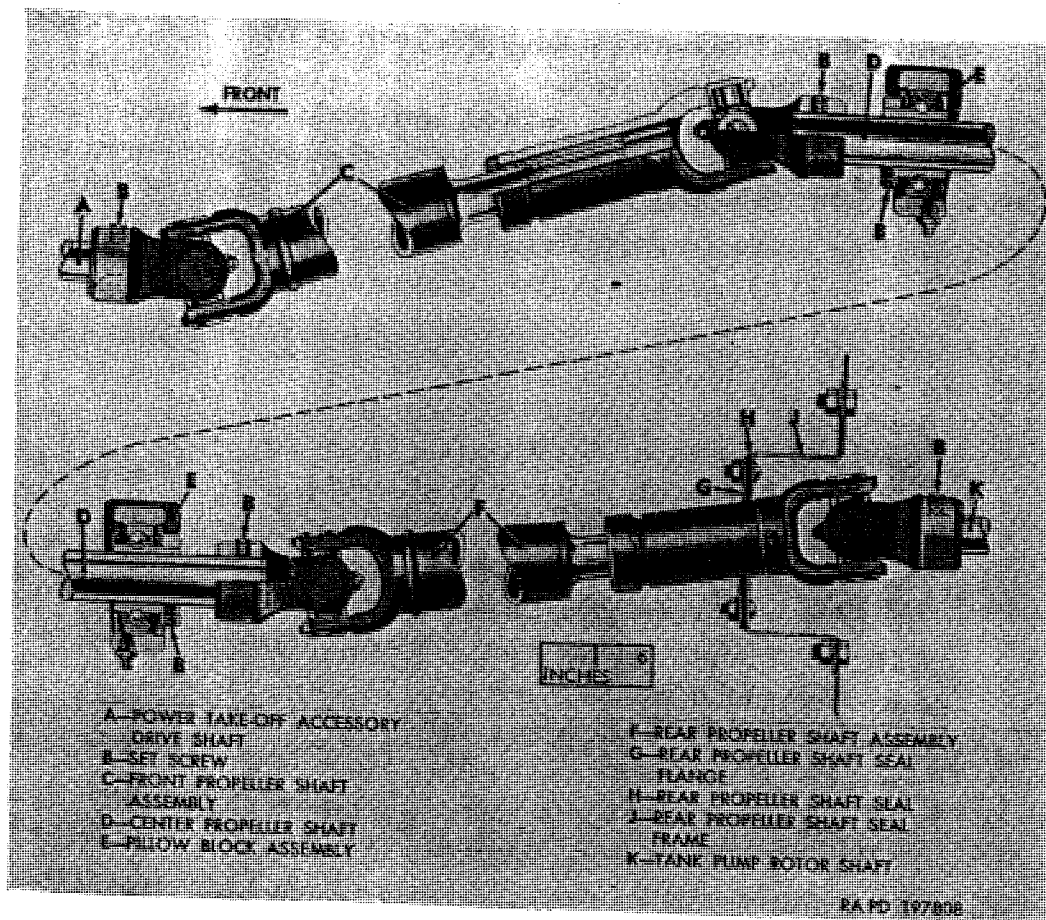

Figure 374. Water tank pump propeller shafts.
b. Front Propeller Shaft Removal (fig. 374).
- (1) Loosen hex-socket setscrew (B) securing universal joint yoke on power-take-off accessory drive shaft (A). Loosen hex-socket setscrew (B) securing universal joint yoke on forward end of center propeller shaft (D).
- (2) Push yoke onto power-take-off accessory drive shaft (A) as far as possible to permit removing yoke from center propeller shaft (D) at other end. Move universal joint yoke forward off end of center propeller shaft, telescoping shaft at slip joint.
c. Front Propeller Shaft Installation (fig. 374).
- (1) Make sure woodruff key is in place in accessory drive shaft end in front end of center propeller shaft.
- (2) Position propeller shaft assembly under vehicle with slip joint end toward rear. Place front universal joint yoke on accessory drive shaft and push onto shaft as far as possible. Telescope shaft at slip joint and place universal joint yoke on forward end of center propeller shaft. Make sure woodruff keys have not been dislodged at either end.
- (3) At power-take-off, position yoke on shaft so that setscrew indexes with milled flat on shaft; then tighten setscrew. Position rear universal joint yoke on front end of center propeller shaft so that yoke completely covers the woodruff key; then tighten yoke setscrew.
d. Rear Propeller Shaft Removal (fig. 374).
- (1) At rear end of shaft, remove four screws and nuts attaching propeller shaft seal flange (G) and seal (H) to seal frame (J).
- (2) At forward end of shaft, loosen setscrew (B) securing universal joint yoke on rear end of center propeller shaft (D). Push yoke onto center shaft as far as possible.
- (3) At rear end of shaft, loosen setscrew (B) securing universal joint on pump rotor shaft (K). Move universal joint yoke forward off pump rotor shaft, telescoping propeller shaft at slip joint. Move propeller shaft forward to complete removal, withdrawing rear universal joint assembly from seal frame.
e. Rear Propeller Shaft Installation (fig. 374).
- (1) Make sure woodruff key is in place in rear end of center shaft and in pump rotor shaft (K). Place seal flange (G) and seal (H) over slip joint end of shaft.
- (2) Position propeller shaft assembly under vehicle, with universal joint at slip joint end inserted through seal frame (J) and with universal joint yoke in place on pump rotor shaft (K). Push universal joint yoke onto rotor shaft as far as
- (3) Position universal joint yoke at both ends so the yoke completely covers the woodruff key; then tighten yoke setscrews (B).
- (4) Position propeller shaft seal (H) and seal flange (G) against seal frame (J) over slip yoke and secure with four screws and nuts.
f. Center Propeller Shaft and Pillow Block Removal (fig. 374).
- (1) Loosen setscrew (B) securing universal joint yoke to each end of center propeller shaft (D).
- (2) Remove two nuts and cap screws attaching each pillow block assembly (E) to body underframing.
- (3) Shorten front and rear propeller shafts by telescoping at slip joint to remove yoke from one end of center propeller shaft; then remove shaft from yoke at opposite end and remove from under vehicle.
- (4) Remove woodruff key from each end of shaft. Loosen two setscrews (B) securing each pillow block bearing collar and bearing inner race to shaft, then slide pillow blocks off shaft.
g. Center Propeller Shaft and Pillow Block Installation (fig. 374).
- (1) Place pillow block assembly (E) over each end of center shaft, but do not tighten setscrews (B) in bearing collar at this time. Tap woodruff key into keyseat in each end of shaft.
- (2) Position shaft and pillow blocks under vehicle and install front and rear propeller shaft yokes on ends of shaft, being careful not to dislodge woodruff keys. Do not tighten setscrews in yokes at this time.
- (3) Attach each pillow block to body underframing with two $\frac{1}{2}$ -20 x 2 cap screws and $\frac{1}{2}$ -20 safety nuts. Tighten nuts.
- (4) Position universal joint yokes on ends of shafts so the yokes completely cover the woodruff keys; then tighten setscrews (B) in yokes.
- (5) Position center shaft in pillow blocks to provide $4\frac{5}{16}$ inches from center of pillow block bracket to center of universal joint yoke; then tighten two setscrews in each pillow block bearing collar. This locks the bearing inner race to the propeller shaft.